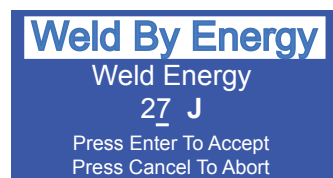

Figure 5-7 Energy Weld Mode - 1
- Use the ← → and the + - keys to move the cursor and to set the digits for the energy you want. See Figure 5-7.